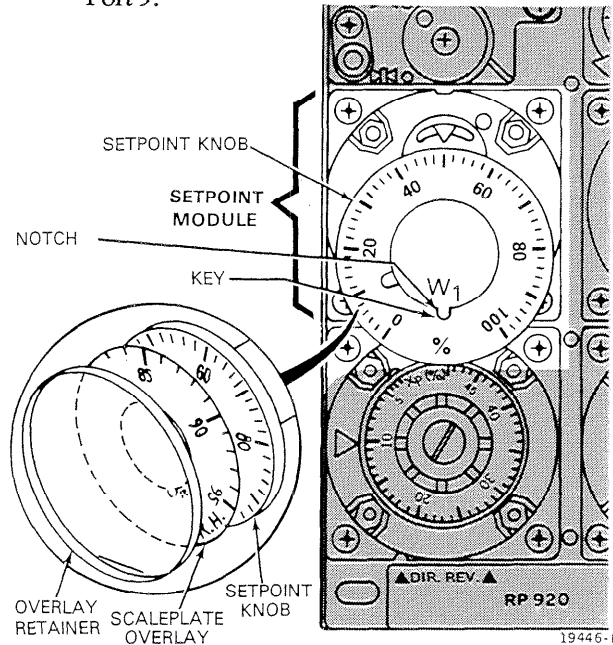

Fig. 18. Setpoint Adjustment.
1. The setpoint knob (W1, Fig 18) is embossed with a 0- to 100-percent scale. Scaleplate overlays are included to match various sensor ranges.